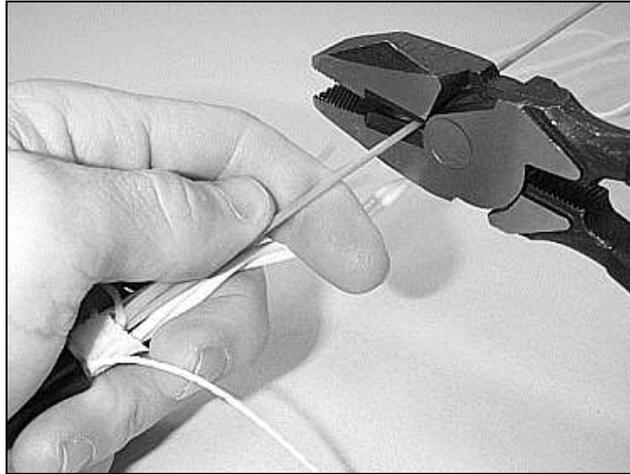

Figure 18 - Cut the central member as required.
4.23 Consult the splice closure instructions for the length of strength member that is needed to clamp the cable in the closure. Cut the central member to the required length. (Figure 18).